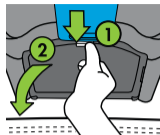

Figure 28
Open LATCH Bin Door by pressing and holding top of Lock Tab (1), then rotating LATCH Bin Door down (2), as shown in **Figure 28**.